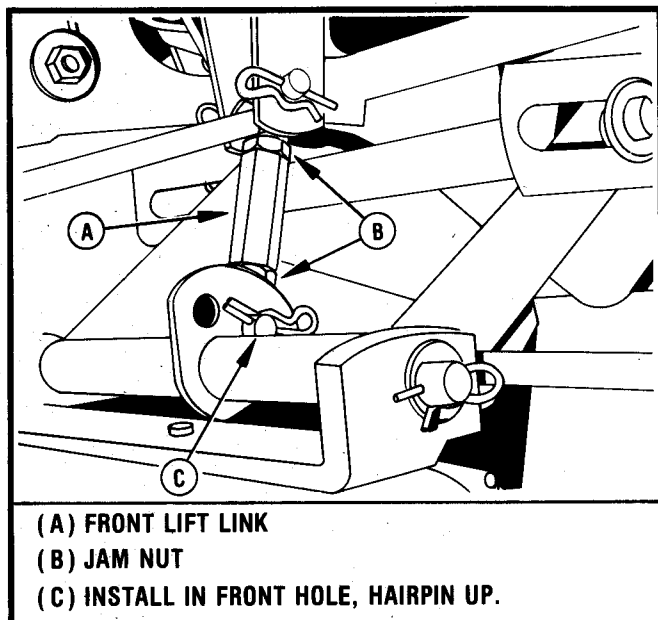

FIGURE 12-3
Position new front lift link assembly (627070) in place of front lift link removed. Make sure the lower end of the link is installed in the forward hole of the mounting area of the front lift arm. Complete the installation as follows. See Figure 12-3.
2. Insert hairpin through the hole of the lower link to secure the link to the front lift arm. See Figure 12-3.
Refer to Figure 12-1 and Figure 12-3 for installation.